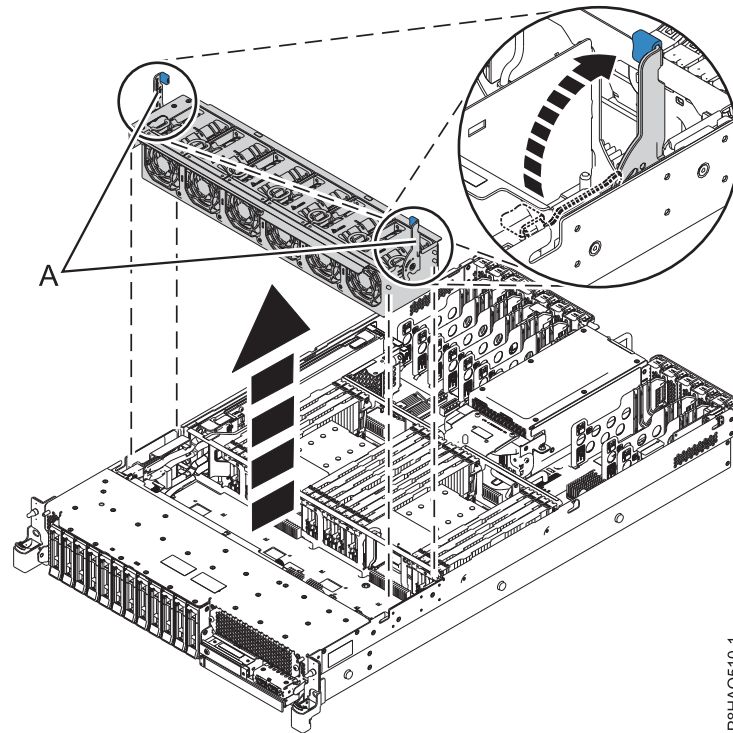

Figure 4. Removing the fan cage
3. Release the blue touch point latches (A) by pulling them up, as shown in Figure 4. This action unseats the fan cage.
4. Pull up the fan cage out of the system by holding on to the blue touch point latches (A).